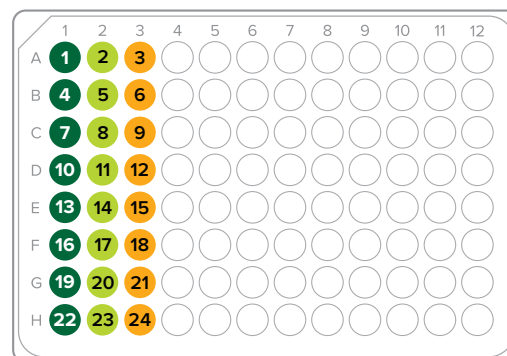

Figure 1. Layout of 10X Assay Pools
- 3 In a DNA-free hood, combine the following components in wells of a new PCR plate or in 8-well strips according to the layout shown (see Figure 1):